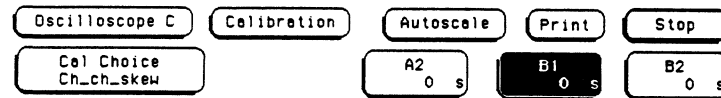

Figure 4-17. Channel for Skew Calibration
- y. Touch label of next channel to calibrate. See figure 4-17.